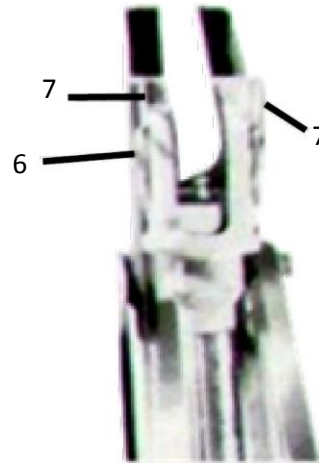

Fig. 3
(2) Raise rod end of dipper (crowd) cylinder and slide the cylinder clevis astraddle the top anchor lug on the dipper arm as shown in Fig. 3. Secure the cylinder to the dipper arm with a 1" x 3" cylinder pin (Item 6 in the main boom assembly) and two each bobby pin clips (Item 7 in the main boom assembly).